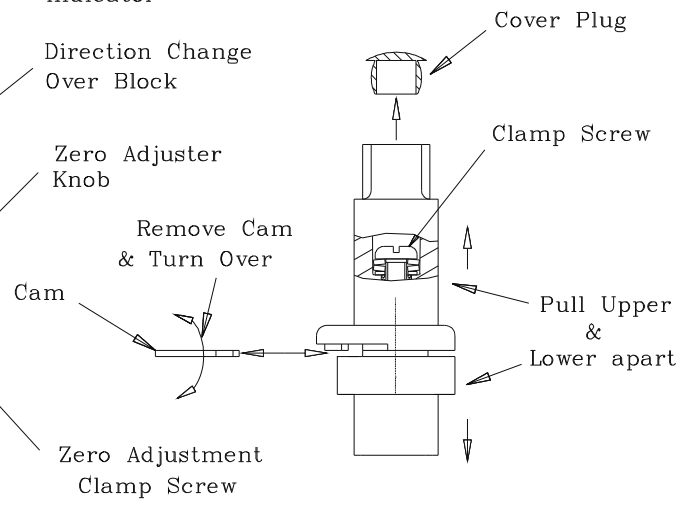

FIGURE 6. COUPLING – CHANGING HAND
4.1.3 Pull the two halves of the coupling apart sufficiently to allow the cam to be withdrawn from its location peg as shown in Figure 6. Flip the cam over and push it back into the slot between the two coupling halves and locate it back on the peg.
6.1.4 Observe the direction that the cam moves with a rising signal and that the retransmit strap is fitted to the correct slot in the lower coupling as marked (C & A for clockwise and anticlockwise respectively). If the direction is not as required then refer to section 6.2. If correct, place the coupling and retransmit assembly on the actuator square with one hand whilst pulling back the mechanism and two DIN plug wires with the other (refer to Figure 6). If the actuator has been correctly positioned near mid-stroke, the cam follower will contact the cam as approximately half way.